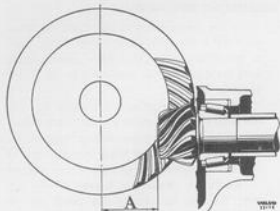

Fig. 4-167. Pinion location
- The pinion should have a certain nominal measurement (A, Fig. 4-167) to the centre line of the crown wheel. Due to tolerances in the manufacturing, there are deviations from the nominal measurement.